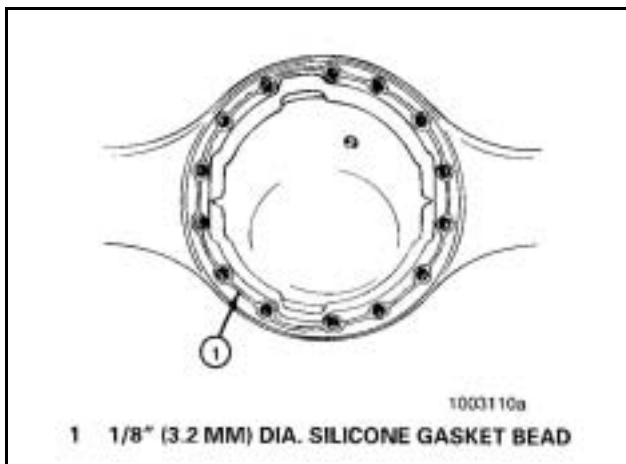

Figure 127
- Apply silicone gasket material to the mounting surface of the housing where the carrier fastens. Refer to the "Application of Three Bond 1216 or Equivalent Silicone Gasket Material". **Figure 127**.